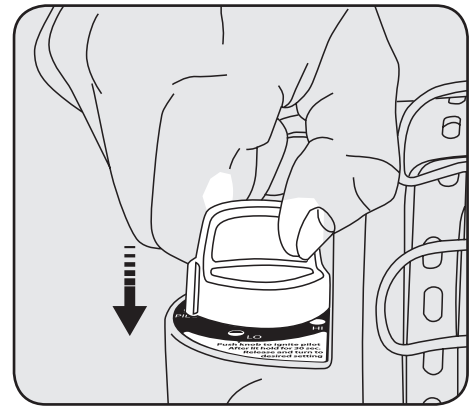

Figure 4
4. Depress and turn Control Knob counterclockwise to "PILOT" position. See Figure 4. Ignitor will spark to light the pilot burner. Hold control knob down in "Pilot" position for 30-60 seconds.
6. Depress and turn Control Knob counterclockwise to "PILOT" position and hold down for 1 - 5 seconds. See Figure 4. This may take longer to purge air from the supply hose depending on the length of the hose being used.